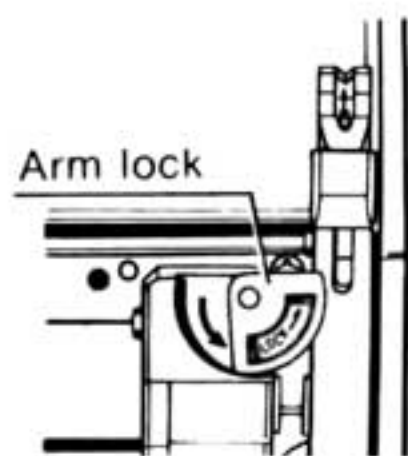

Fig. 2
1. Open the upper cabinet and turn the arm lock in the direction of arrow to lock the tonearm. (See Fig. 2.)